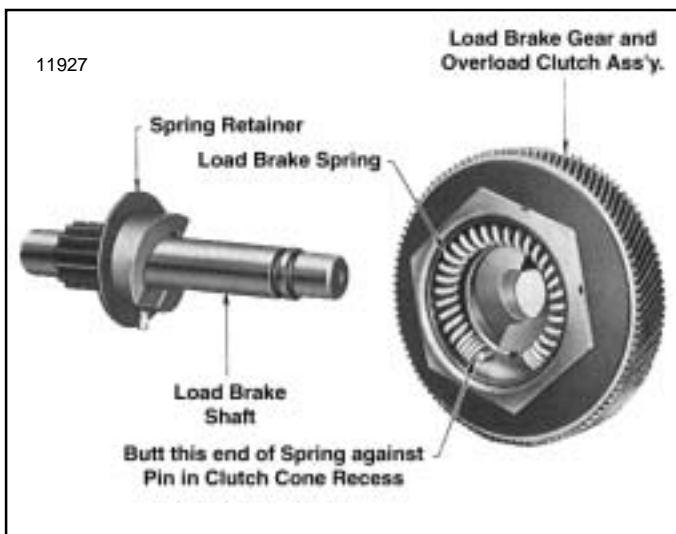

Figure 7-24. Load Brake Gear and Overload Clutch Assembly Removed from Load Brake Shaft Showing Brake Spring Installed in Clutch Cone
(3) Remove load brake gear and overload clutch assembly from output pinion shaft. Pull the spring from its recess in clutch cone (fig. 7-24) but do not further disassemble gear and clutch assembly. See "NOTE" below.
**NOTE:** Disassembly of the load brake gear and overload clutch assembly (fig. 7-24) is not recommended. Clutch pressure is preset by the factory at assembly to provide the correct torque to allow the clutch to refuse loads within a specified range (110% of rated load to 180% rated load). It is suggested whenever there is a need to repair or readjust the gear and clutch assembly that it be sent to an authorized **Budgit** Hoist Repair Station where adequate tools, fixtures and appropriate test equipment is available.
(1) Before assembly, all parts should be cleaned and inspected to determine their serviceability. Replace parts that are excessively worn or damaged.
(2) Reassemble load brake parts following a reverse procedure of the disassembly steps listed above, observing the assembly steps (3) thru (6) below.
(3) Before installing spring in its recess in center of clutch cone (fig. 7-24) apply a good grade of ball bearing grease to inside of recess. Spring must be positioned exactly as illustrated, abutted against pin.